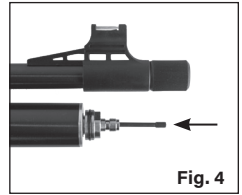

Fig. 4
2. Insert the degassing tool through the tip of the fill nipple (Fig. 4).